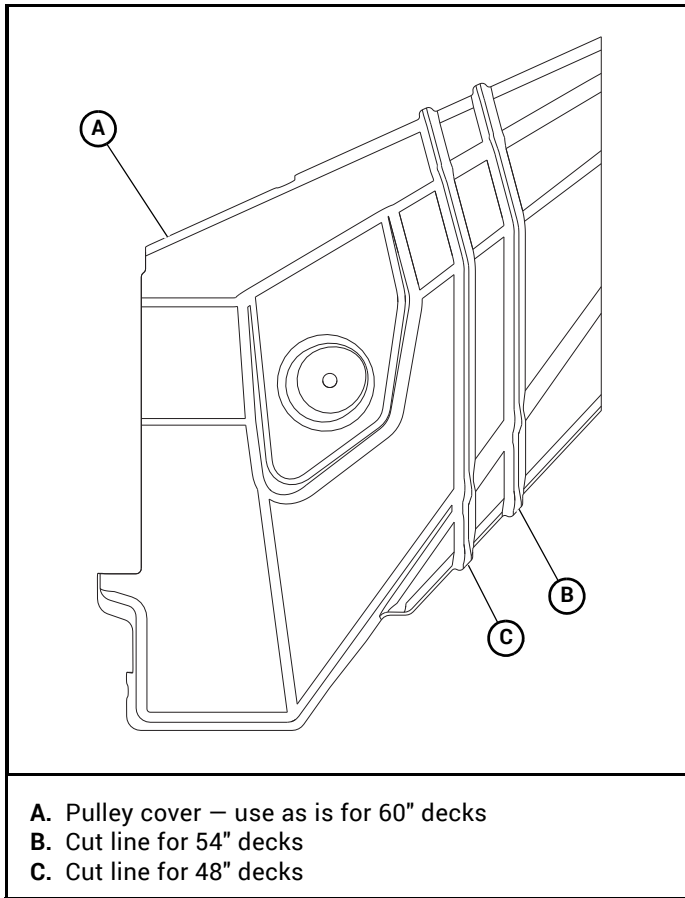

Figure 3-15
21. Carefully cut the pulley cover to match the deck size the catcher is being installed on. Figure 3-15